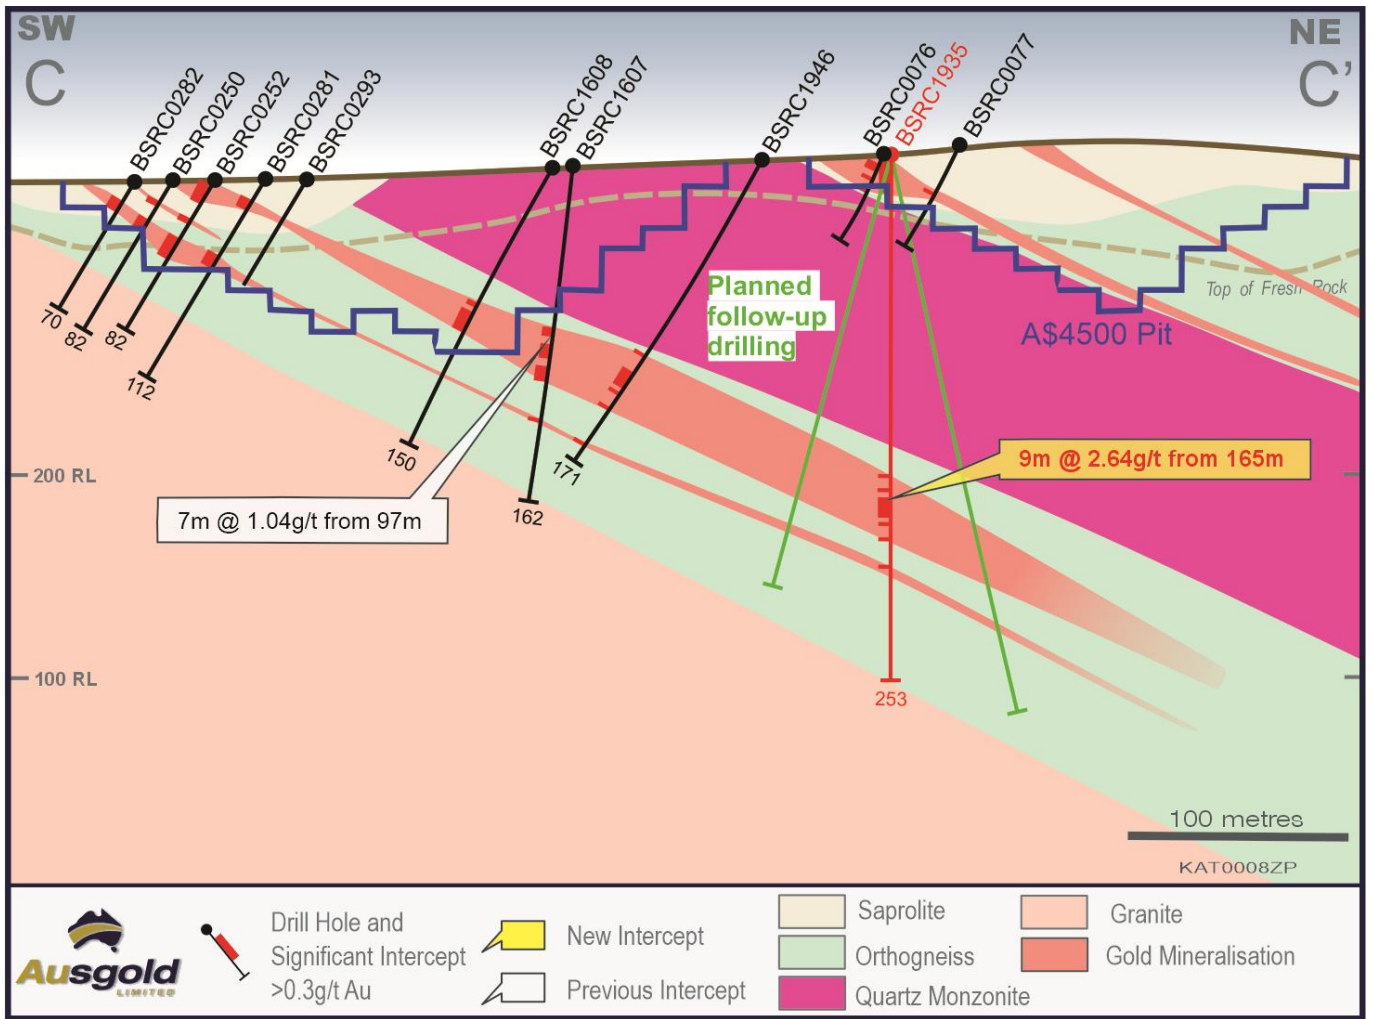

Figure 5 –Cross-section C-C' across the White Dam-Jackson Lodes with Resource Drilling and Pit
- **9m @ 2.64g/t from 165m in BSRC1935 (White Dam-Jackson) (Figure 5)**